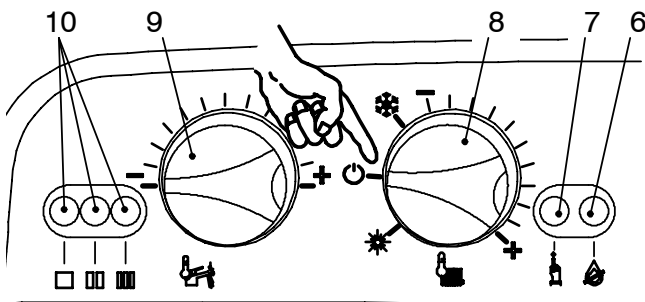

Fig. 8.1
- 8 Turn the boiler OFF positioning the function selector 8 as indicated in Fig. 8.1.